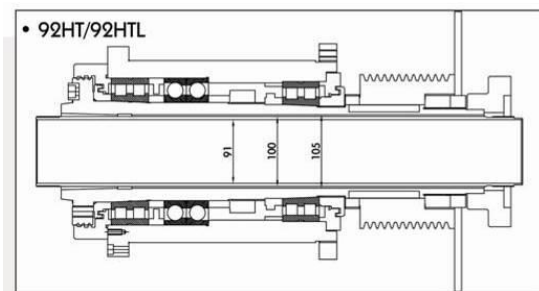

Fig. 31 92HT/HTL spindle
The heavy cutting duty cartridge type spindle (see Fig. 31) is supported by a double row of cylindrical (NN) roller bearings in the front and rear, with duplex angular thrust bearings in between. The NN roller bearings feature a large contact surface which ensures the highest rigidity for heavy loads and superior surface finishes.